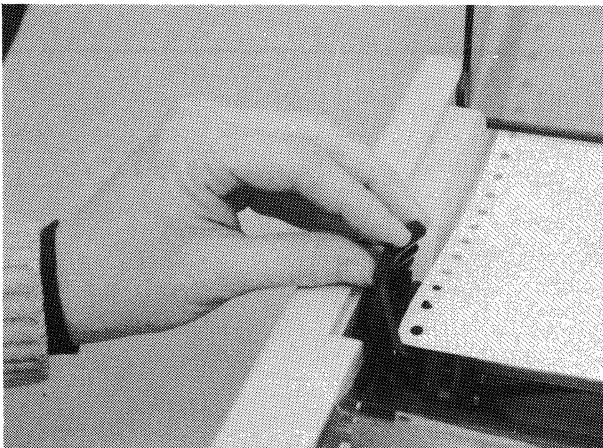

Figure 2-5C Engaging Left Sprocket
4. Feed the fanfold paper through the rear slot and engage two or three holes in the sprocket (Figure 2-5C) then close the tractor.